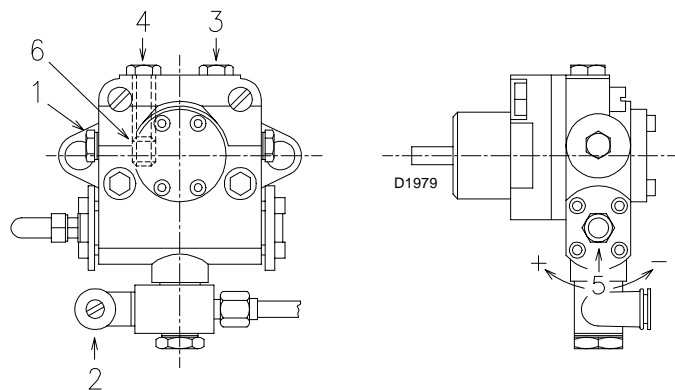

Fig. 18
In order to obtain single-pipe working it is necessary to unscrew the return hose, remove the by-pass screw 6)(Fig. 18) and then screw the plug 2).
For the priming pump loosen the screw 3)(Fig. 18) in order to bleed off the air contained in the suction line and wait until the fuel flows out.
The pumps are equipped with a by-pass that connects return line and suction line. The pumps are installed on the burner with the by-pass closed by screw 6)(Fig. 18).
Key (Fig. 18)
- For self-priming to take place, the screw 3)(Fig. 18) of the pump must be loosened in order to bleed off the air contained in the suction line.